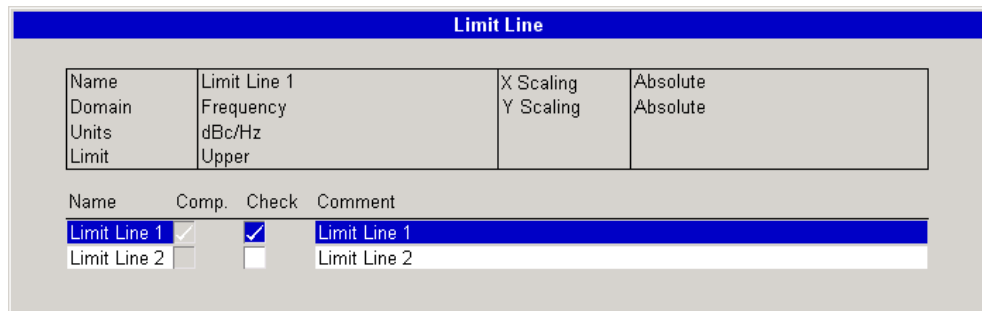

Fig. 4.32 *Limit Line* selection dialog box
The *DELETE* softkey deletes the limit line selected in the *Limit Line* selection dialog box (see Fig. 4.32).
1. In the *Limit Line* selection dialog box (see Fig. 4.32), focus the required limit line. The selected limit line is highlighted.